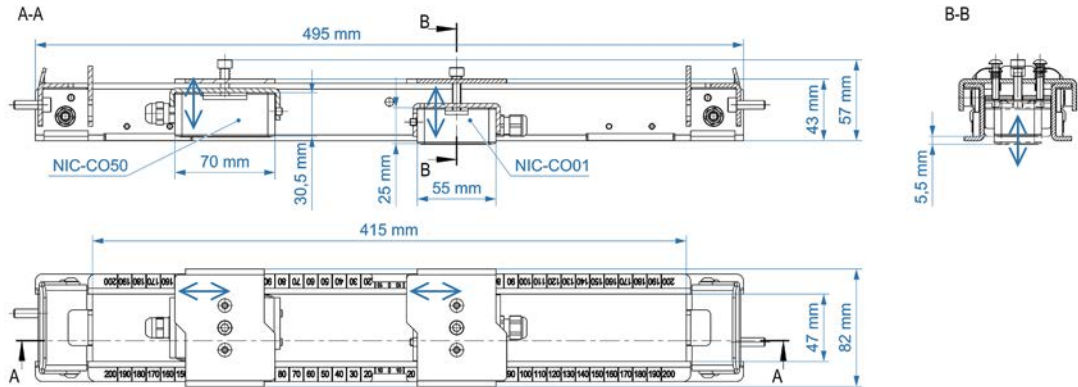
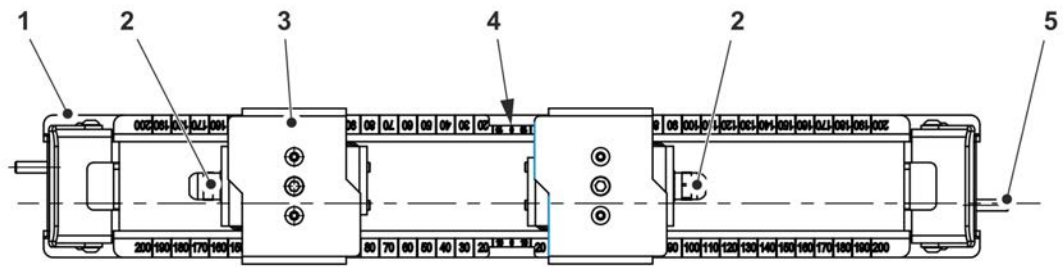

Fig. 10-72 Dimensions mounting rail from ZUB-CORA00103 / RA00104
Fig. 10-74 Inserting the sensors
3. If two mounting rails are used in a V-arrangement (see info table on page 64 earlier in the chapter), connect them together for pre-alignment with the connecting screws M6x20 (Fig. 10-74 Pos. 5) (insert; screwing with nuts is possible, but not required).
8. Insert the sensors into the appropriate sensor holder (Fig. 10-72, Fig. 10-74 Pos. 3).
10. Insert the sensors in the sensor holder (Fig. 10-74 Pos. 3) at the centre recess (at the scale zero point) (Fig. 10-74 Pos. 4) in the mounting rail (Fig. 10-74 Pos. 1).
- the **sensor cable** (Fig. 10-74 Pos. 2) must always point "outwards" and that the ultrasound direction points to the second sensor of the measurement.
4. Move the sensor holder(s) and remove them from the mounting rail(s) (Fig. 10-74 Pos. 1) at the centre recess (at the scale zero point) (Fig. 10-74 Pos. 4).